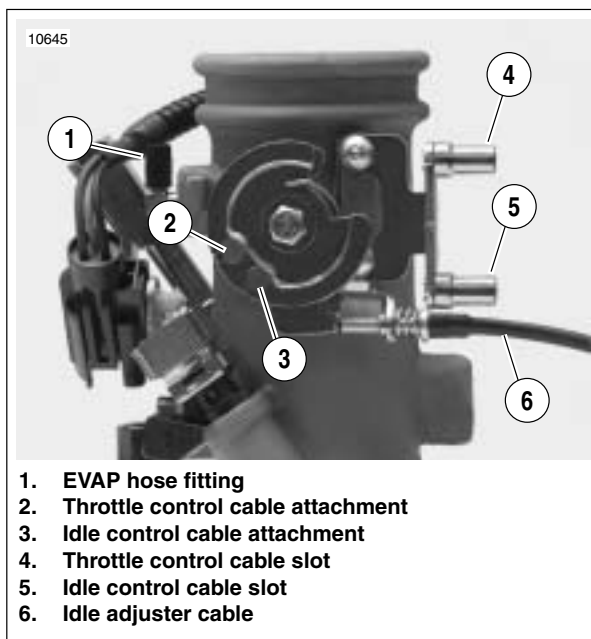

Figure 4-101. Throttle Cable Bracket (Typical)
4. See Figure 4-101. On California models, pull EVAP hose from fitting (1).
9. Remove fuel rail fastener (1) that holds the fuel rail to the throttle body and manifold.